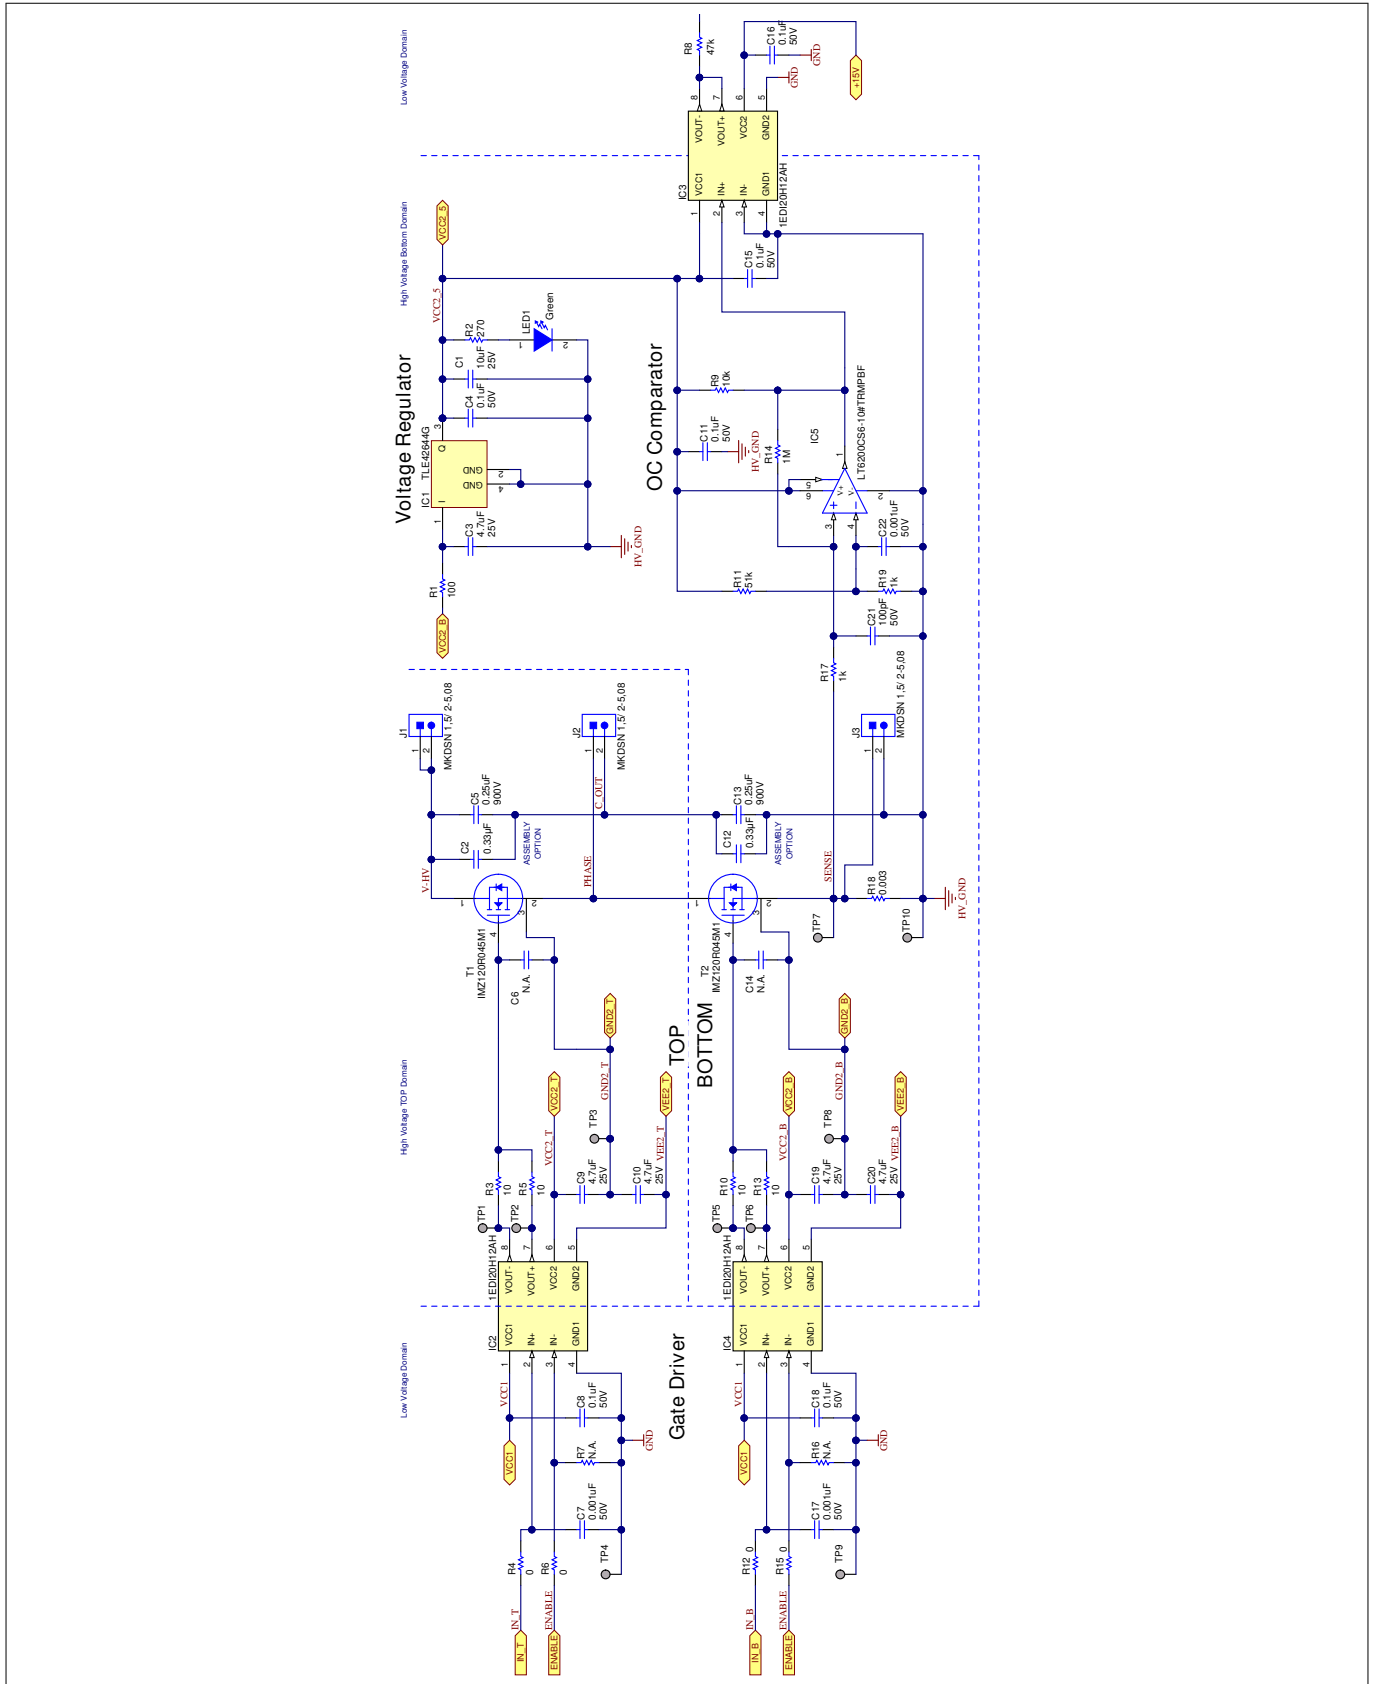

Figure 4 The gate driver schematics
- Gate driver schematic, see Figure 4, high-side and low-side gate driver in a half-bridge configuration and the over-current detection and protection circuit with voltage regulator and feedback path.
The low-voltage domain is shown on the left-hand side and on the right-hand side of Figure 4. It is typically used to connect to a microcontroller and supplied with $VCC1$. Every supply pin $VCC1$ has a blocking capacitor C8 and C18 to $GND1$.